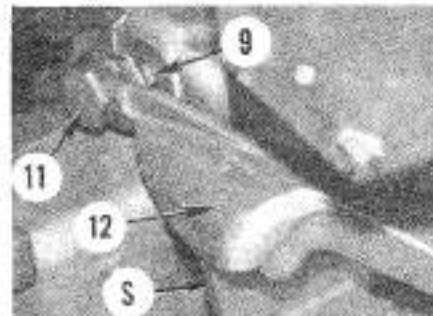

Fig. 155—View of differential lock pedal (12), clevis (11) and locknut (9) used on Orchard models and MF250 models. Refer to text for adjustment.
To disassemble the removed differential unit, first scribe alignment marks on both halves of differential case to ensure correct reassembly. Pull bearing cone (7—Fig. 155) off differential lock coupler cap (8), then remove cap screws retaining coupler cap. Remove coupler cam and separate differential case halves (9 and 16). Differential side gears (11), pinion gears (13) and cross (12) can now be removed.
Fig. 155—Exploded view of differential and bevel gears for Orchard models and all MF250 models. Other tractors are similar except bearing carrier housings (1 and 19) are not used. Some models use a lockwasher in place of pins (29) to retain adjusting nut (28).
**159. CARRIER BEARING PRELOAD.** The differential carrier bearing preload is adjusted by installing correct thickness spacer shield (3—Fig. 155), or shim depending on differential type, under right-hand carrier bearing cup (4). The recommended method of checking the preload adjustment is by use of Massey-Ferguson special tool (MFN 245UK). If tool is not available, an alternate procedure (although not as accurate) can be used as follows:
**162. REMOVE AND REINSTALL.** To remove the differential lock coupler halves (6 and 8—Fig. 155), first drain transmission and hydraulic reservoir, block up under differential housing and remove right fender and rear tire and wheel assembly. Remove right lower hitch link and disconnect right brake linkage. Support rear axle housing assembly in a hoist and remove retaining stud nuts, then slide right rear axle and housing as a unit away from differential housing.
**163. REMOVE AND REINSTALL.** The main drive bevel ring gear (15—Fig. 155) and bevel pinion gear (22) must be renewed as a matched set.
On models not equipped with independent pto, Multi-Power transmission or auxiliary hydraulics, it is not necessary to split the tractor to remove pinion shaft. Remove the coupler tube and pinion drive shaft. Remove side cover from left-hand side of housing and move pto driven gear forward on pto shaft splines. Remove ground speed pto drive gear (30—Fig. 155) from pinion shaft.
**164. OVERHAUL.** To disassemble bevel pinion gear, proceed as follows: If bearing adjusting nut (28—Fig. 155) is retained by a tab washer, unlock tabs and remove the nut. If bearing adjusting nut is retained by locking pins (29), it will be necessary to split the nut using a hammer and chisel to remove nut from the shaft. Be careful to avoid damaging threads of pinion when splitting the nut. On all models, bump the pinion shaft out of retainer after nut is removed.